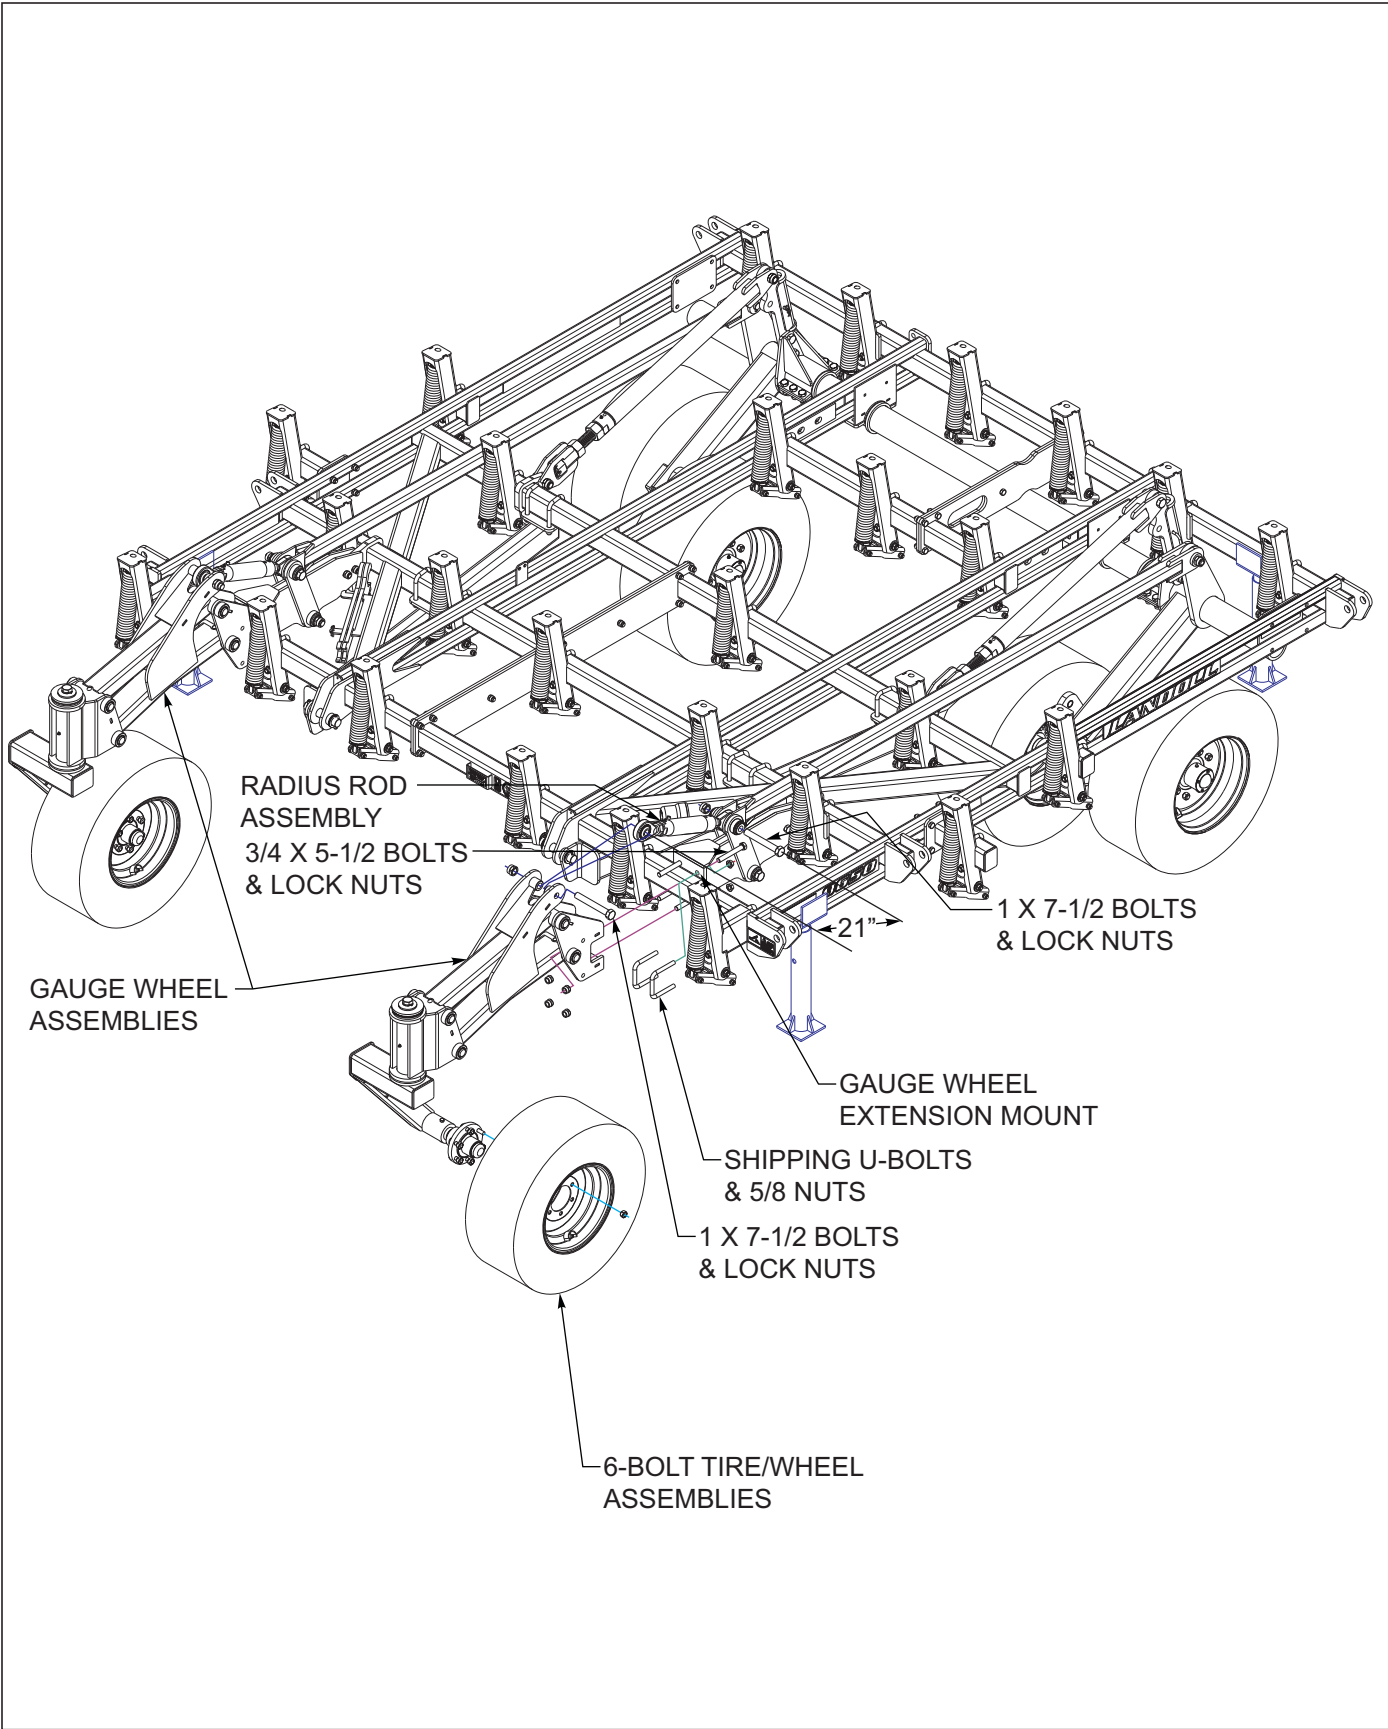

Figure 3-3: Gauge Wheel Assembly Center
1. Remove the shipping u-bolts and nuts from front of the gauge wheel extension mounts See Figure 3-3.